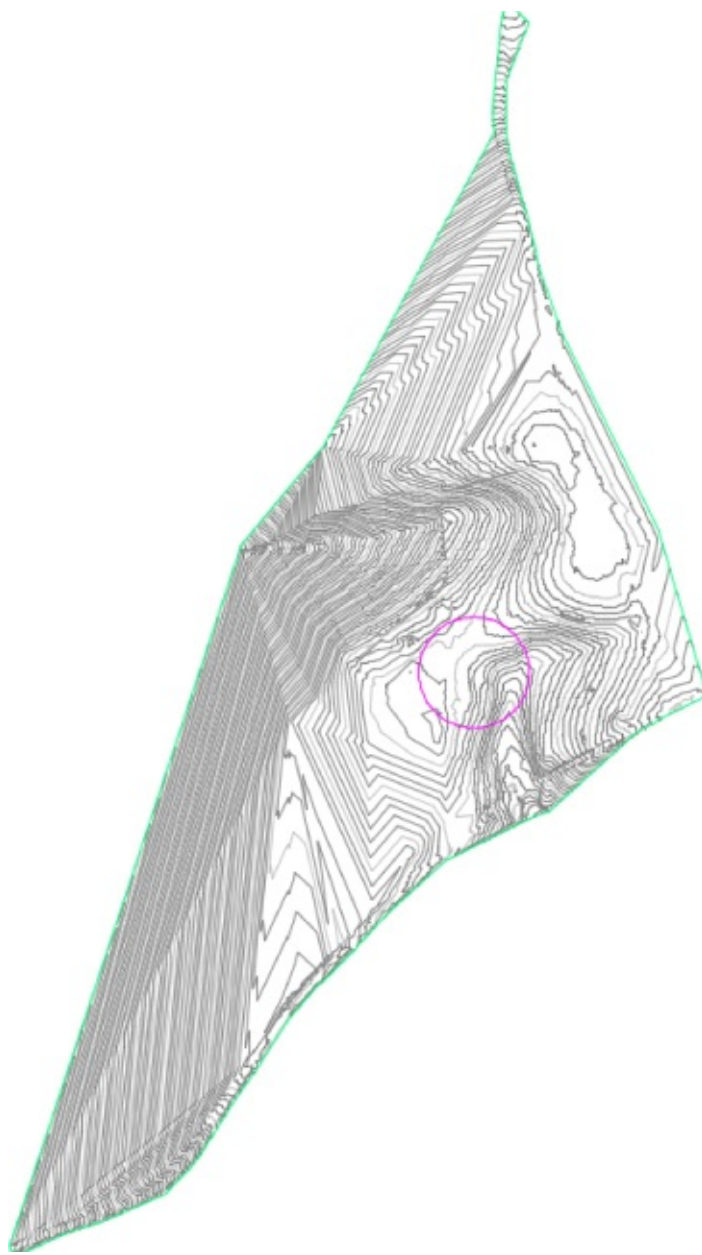

Figure 4.30 EG surface after ignoring low elevations
- When this step is complete, the surface will look similar to Figure 4.30. Save the drawing and keep it open for the next portion of the exercise.